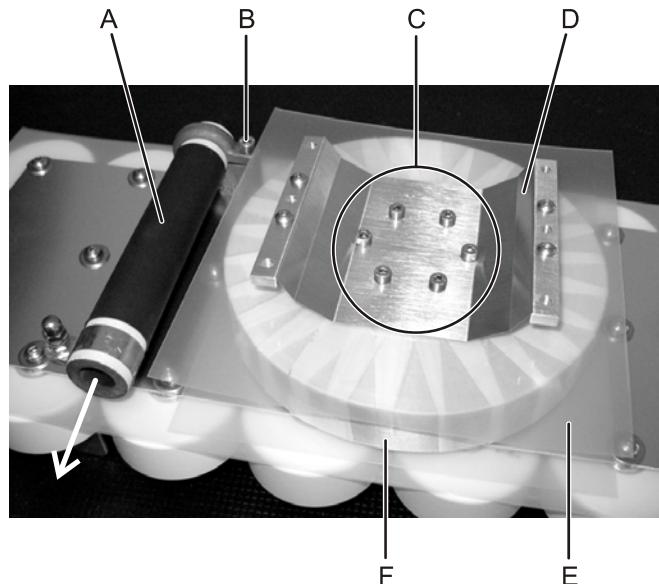

Figure 79: Exchanging the storage capacitor array
10. Use the 3 mm allen key to loosen the HV resistor securing clamp (see Figure 79, B).
11. Pull the HV resistor (A) together with the copper contact ring out of the securing clamp in the direction shown in Figure 79.
12. Use the 3 mm allen key to unscrew the six attachment screws (C).
13. Remove the thyatron contact plate (D), plastic insulation sheet (E) and magnetic assist (F) from the old array and place them in the correct fitting position on the new storage capacitor array.